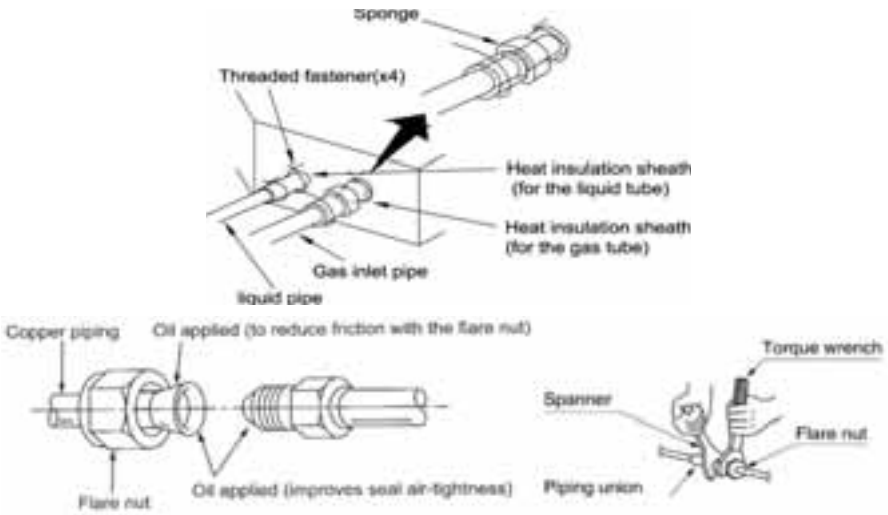

Fig. 4.12
- (2). Do not bend the pipes in an angle more than 90°.
- (3). When pipes are repeatedly bent or stretched, the material will weaken making it more likely to break. Do not bend or stretch the pipes more than three times.
- (4). For best results, cut insulation before bending, as shown in fig. 4.12. Bend pipe as needed and secure insulation with tape.
When connecting the pipe to the unit or removing it from the unit, please use a torque wrench (Fig. 4.12).
Examine the connection pipe to see if it leaks, then apply heat insulation sheath, as shown in the Fig. 4.12.